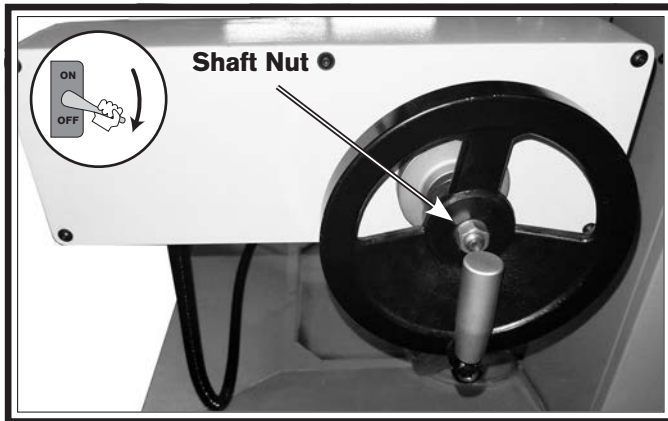

Figure 50. X-axis handwheel.
3. While holding handwheel locked with shaft, remove shaft nut shown in **Figure 50**.